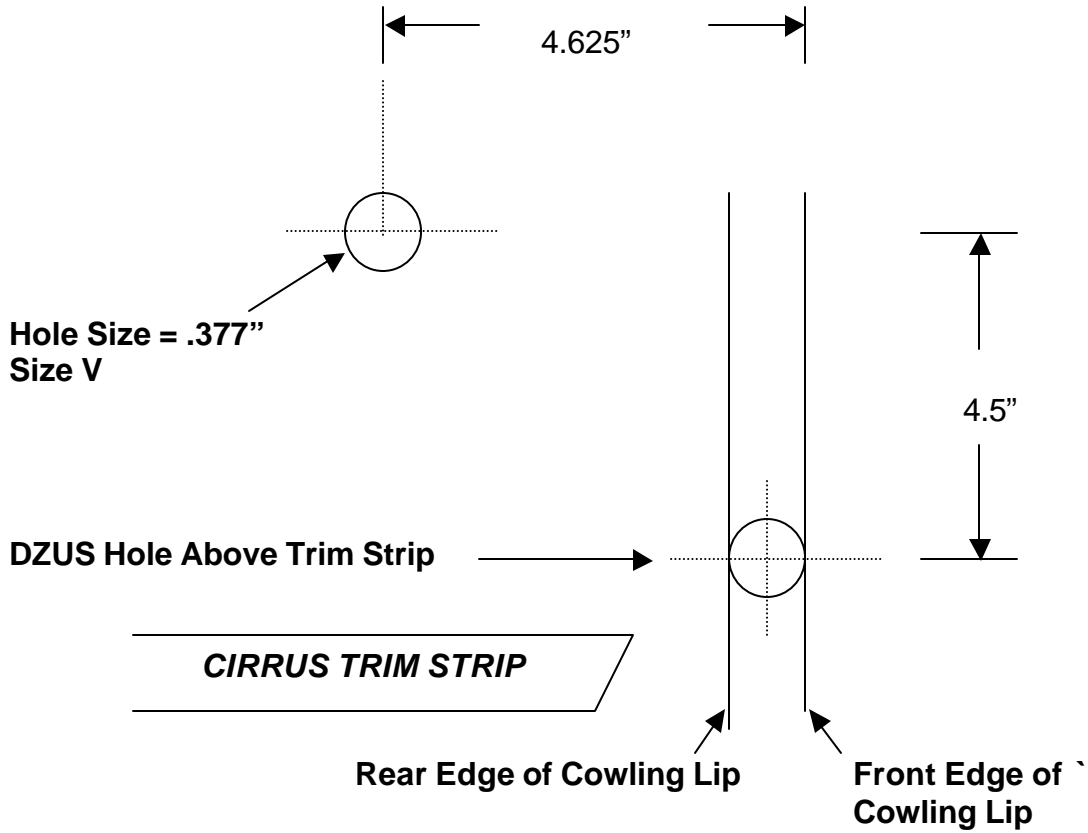

Figure 12-3
3. Mounting hole. Measure (using photo (**Figure 12-2**) and diagram (**Figure 12-3**) below) and mark the location for the OAT. Pilot drill through the composite and then finish drill to 0.377". De-burr the hole prior to installing the sensor.